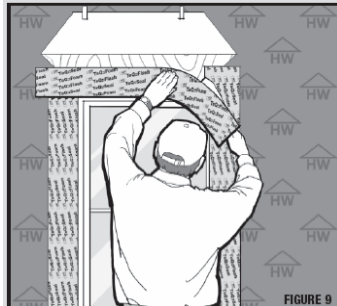

Figure 9
5.1.1 Head flashing should extend beyond jamb flashing by 1" on both sides (Figure 9). Apply head flashing under WRB flap created in Step 1.